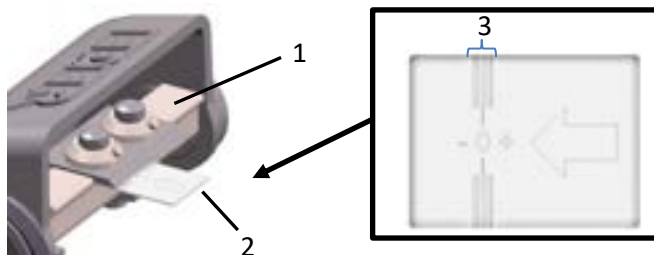

Fig. 9: Knife adjustment
- > Push the setting gauge (2 – Fig. 9) under the knife in the direction of the arrow up to the peeling cylinder (1 – Fig. 9).
Attention: The cutting edge of the knife must be within the marked area (3 – Fig.9).